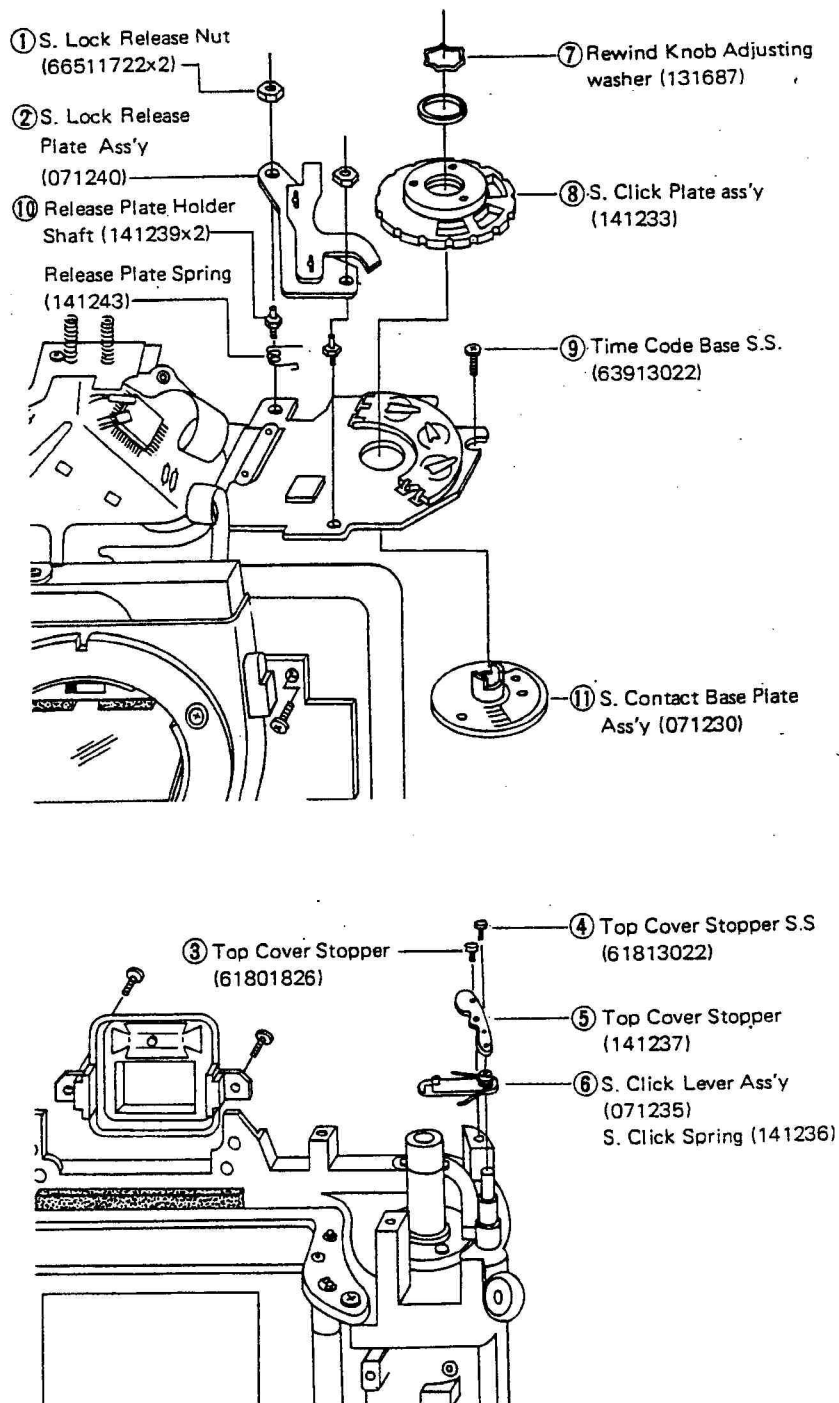

Fig. 50
- c) Remove the respective parts ①~⑪ shown in (fig. 50) in numerical order.